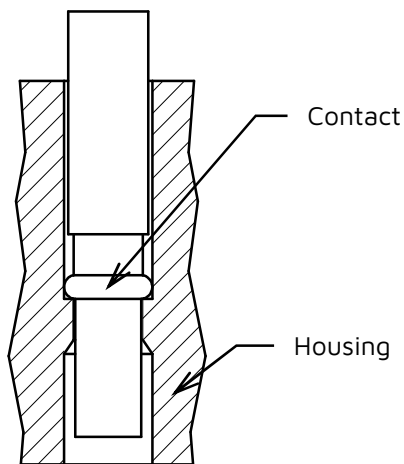

Figure 2
4. Place the crimped contact partially into the housing. The correct position is reached when approximately 1.5-2mm of socket protrudes (see Figures 2 and 3).